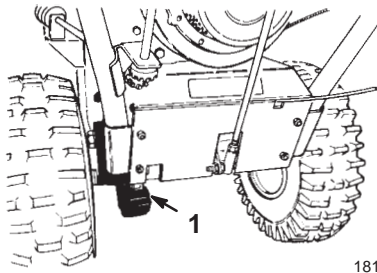

Figure 32
2. Lightly lubricate the drive chain with a chain lubricant (Fig. 32).